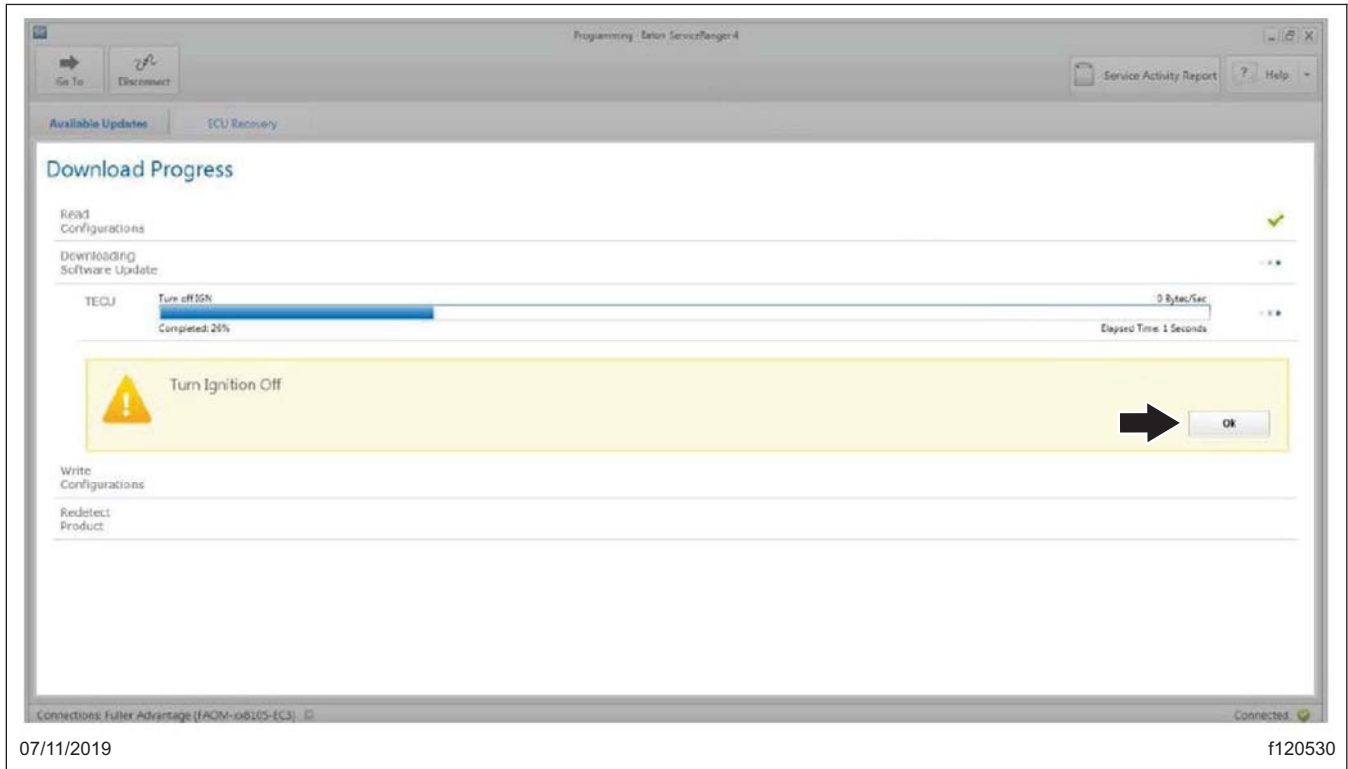

Fig. 10, Clicking on OK
- 4.9 After waiting 2 minutes, select "OK." See Fig. 10.